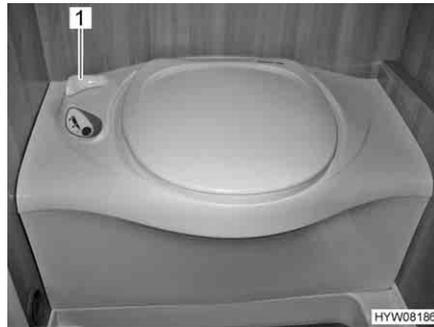

Fig. 190 Thetford toilet
- Before flushing open the sliding trap of the Thetford toilet. To do this, turn the slide lever (Fig. 190,1) in an anticlockwise direction.
- After flushing close the sliding trap. To do this turn the slide lever (Fig. 190,1) in a clockwise direction.